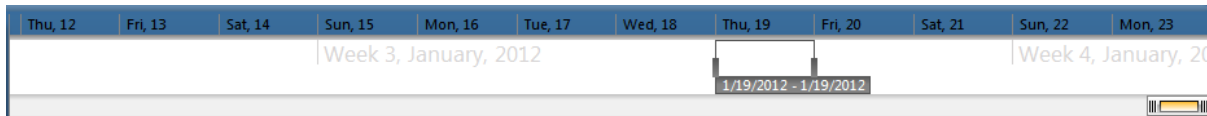

Figure 18 – Date/Time Selection
The SnapView software regularly attempts to synchronize with all connected DataSnaps. This occurs in the background and is therefore no user interaction is required. During synchronization, a green status icon is displayed in the upper right corner of the screen. Hovering a mouse over the icon displays the number of logs that still need to be retrieved from the DataSnap as shown in figure 18.
- **Specify the date range** - The time bar at the top of the screen shows a range of selectable dates. See figure 18.